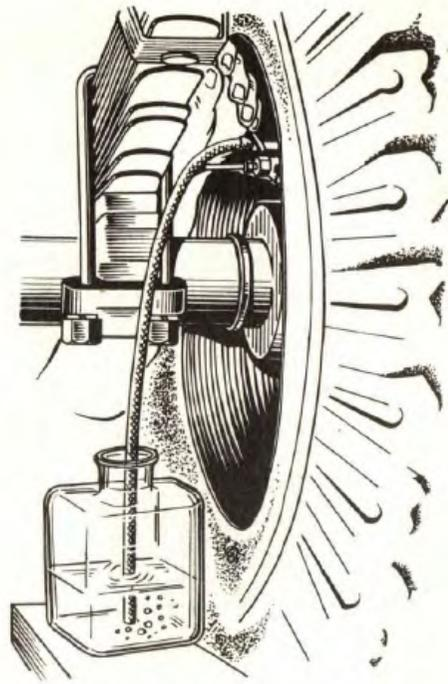

Fig. 53. Bleeding Brakes
3. Remove the rubber cap from the bleeder valve of the right rear brake and put on a rubber bleeder tube about 400 mm long. Place the free end of the tube in a glass container of at least 0.5-litre capacity filled half-full with brake fluid (Fig.53).